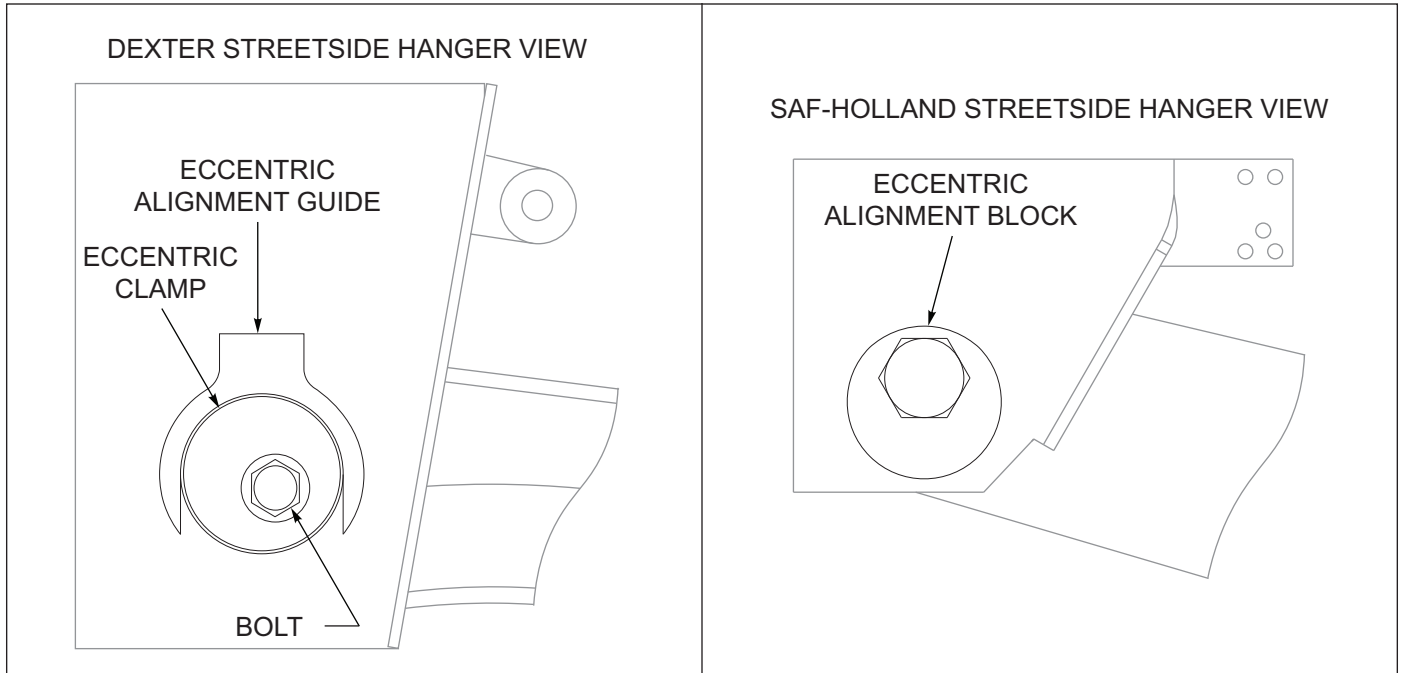

Figure 4-13: Streetside Suspension Hanger
- a. 1-1/8 in Pivot Bolts - Loosen pivot bolt lock nuts and rotate eccentric pivot bolts clockwise or counter-clockwise to adjust. Repeat Steps 5-6 until measurement is achieved, *See Figure 4-13*.
- b. 7/8 in Pivot Bolts - Break welds if present between hanger mounts/eccentric collars and pivot lock nuts/jam nuts. Loosen jam nuts if installed. Loosen lock nuts. Rotate eccentric pivot bolts clockwise or counter-clockwise to adjust. Repeat Steps 5 through 6 until measurement is achieved, *See Figure 4-13*.
- a. 1-1/8 in Pivot Bolts - Loosen pivot bolt lock nuts and rotate eccentric pivot bolts clockwise or counterclockwise to adjust. Repeat Steps 5 through 6 until measurement is achieved, *See Figure 4-13*.
- b. 7/8 in Pivot Bolts - Break welds if present between hanger mounts/eccentric collars and pivot lock nuts/jam nuts. Loosen jam nuts if installed. Loosen lock nuts. Rotate eccentric pivot bolts clockwise or counterclockwise to adjust. Repeat Steps 5 through 6 until measurement is achieved, *See Figure 4-13*.